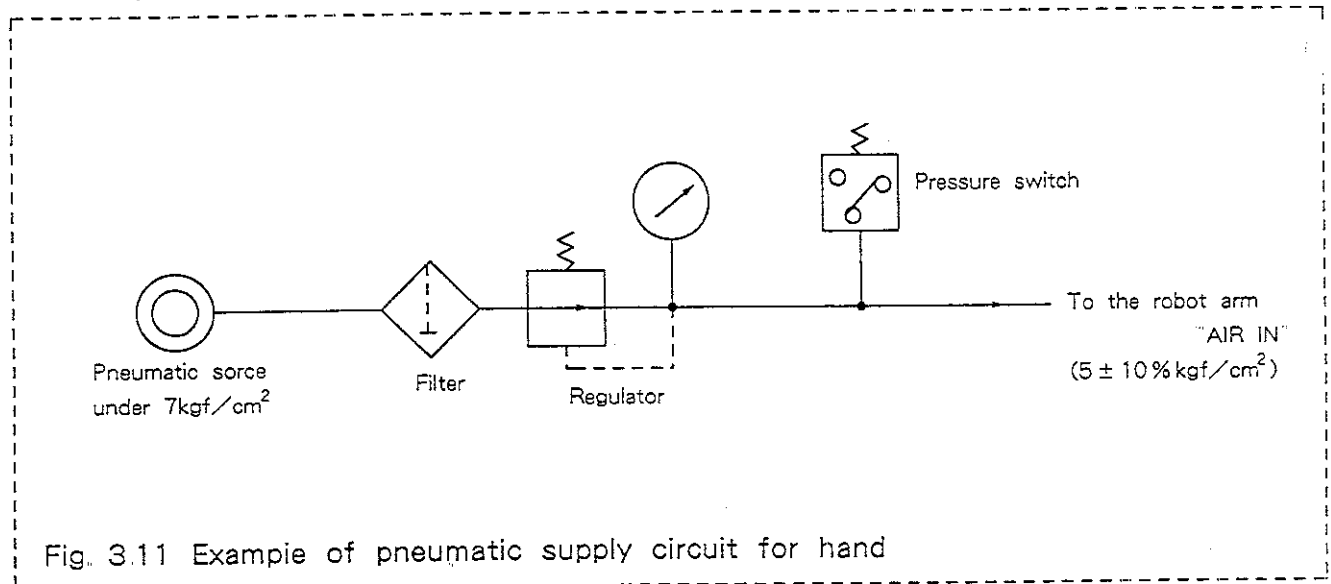

Fig. 3.11 Example of pneumatic supply circuit for hand
An example of the air supply circuit for the hand is shown in Fig. 3.11.
- (1) Always install a diode in parallel to the solenoid coil.
- (2) The actual work may be obstructed if the factory air pressure drops causing the hand's clamping force to drop. Use the circuit so that a pressure switch is installed on the air source and the robot stops when the pressure drops as shown in Fig. 3.11. If the operation is still obstructed with the pressure switch installed, use a mechanical lock-type hand or a hand that clamps with spring pressure.
- (3) The optional hand and solenoid valve are non-oiling types. When using these options, do not use an oiler.